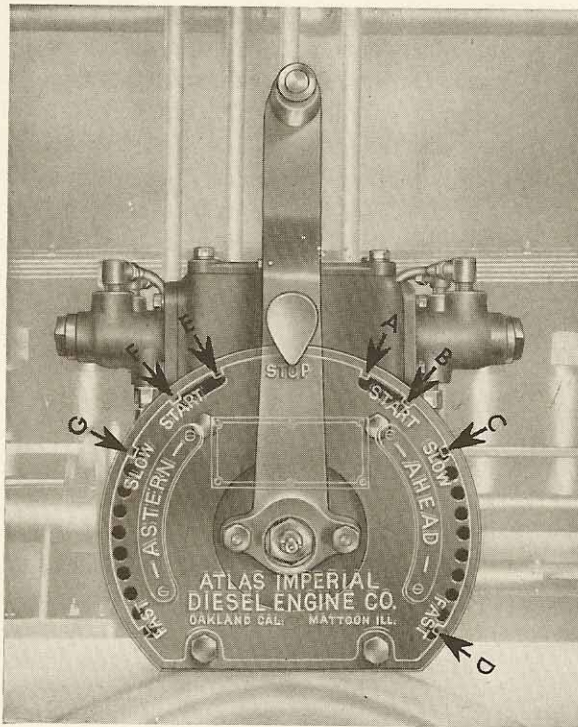

FIGURE 6-3
snifters, or cylinder-relief valves. Depress the latch button of the single-lever control until it releases the lever from the "stop" position, then release the latch button and move the lever to the ahead starting slot, "A." See Figure 6-3.
10. STARTING AHEAD: Close the snifter valves and open the isolating valves. You are now ready to start. Depress the latch button and move the lever to "A" Figure 6-3. Wait at "A" for latch-shaft rotation (we know you have just tested the engine running ahead on air, but waiting here is a good habit to form). Then move on to "B" position. When the en-
Shift the control one notch into a higher speed and go through inspections (A) to (F), inclusive, again. If the engine has been started up from cold it is advisable to increase the speed gradually, going through the various checks each time the speed is raised until the engine has reached its rated number of revolutions per minute. In position "D," Figure 6-3, the maximum governor spring tension is applied.
14. REVERSING THE ENGINE: When increasing or decreasing engine speed during maneuvers, remember to adjust your fuel pressure accordingly. When it is necessary to reverse the engine, depress the latch button and hold it, moving the control quickly to "stop" then release the button. WAIT UNTIL THE ENGINE STOPS. Depress the button to get out of the "stop" position, release the button and move the lever to the astern starting slot in position "E," Figure 6-3. Wait for the latch shaft to rotate, and then move the lever on to "F," Figure 6-3, which position admits starting air to the cylinders. After the engine